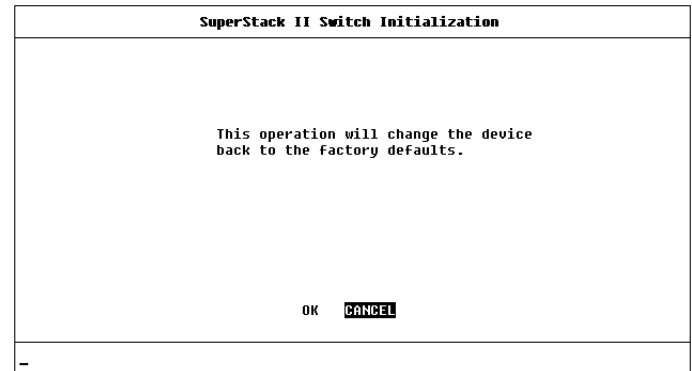

Figure 4-19 Initialize screen
- 1 From the Main Menu, select the INITIALIZE option. The Initialize screen is displayed, as shown in Figure 4-19.